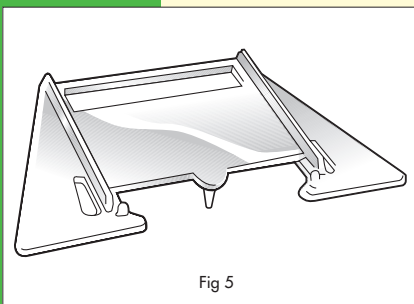

Fig 5
**REMEDY** Reconstruct the throat as shown, or, perhaps better still, fill in and streamline the voids and fix an adjustable throat restrictor of the type shown in Fig.5. Filling in, which should be carried up as near to the flue as possible, is usually done with bricks and rubble bedded in lime mortar and overlaid with a lime mortar rendering. But remember that mortar will not bond to a sooty surface and the existing rendering should be well scraped first.